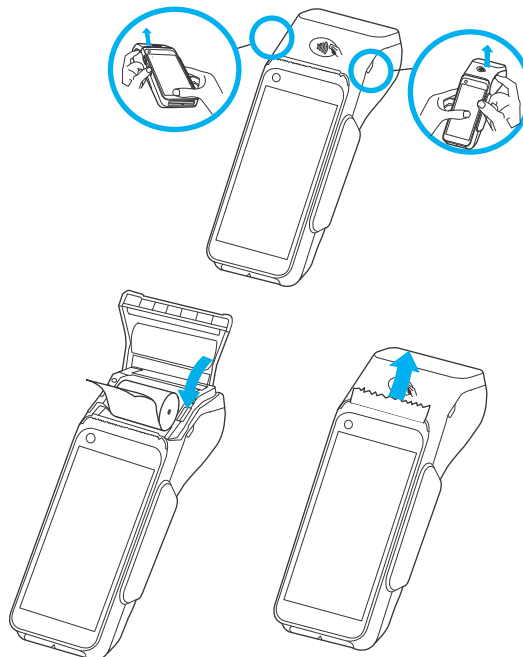

Figure 10 Steps to Install a Paper Roll in the V660p-2
- 1 Hold both sides of the paper door, which is on the upper corner of the device and open the paper door by pulling outside (See Figure 10).